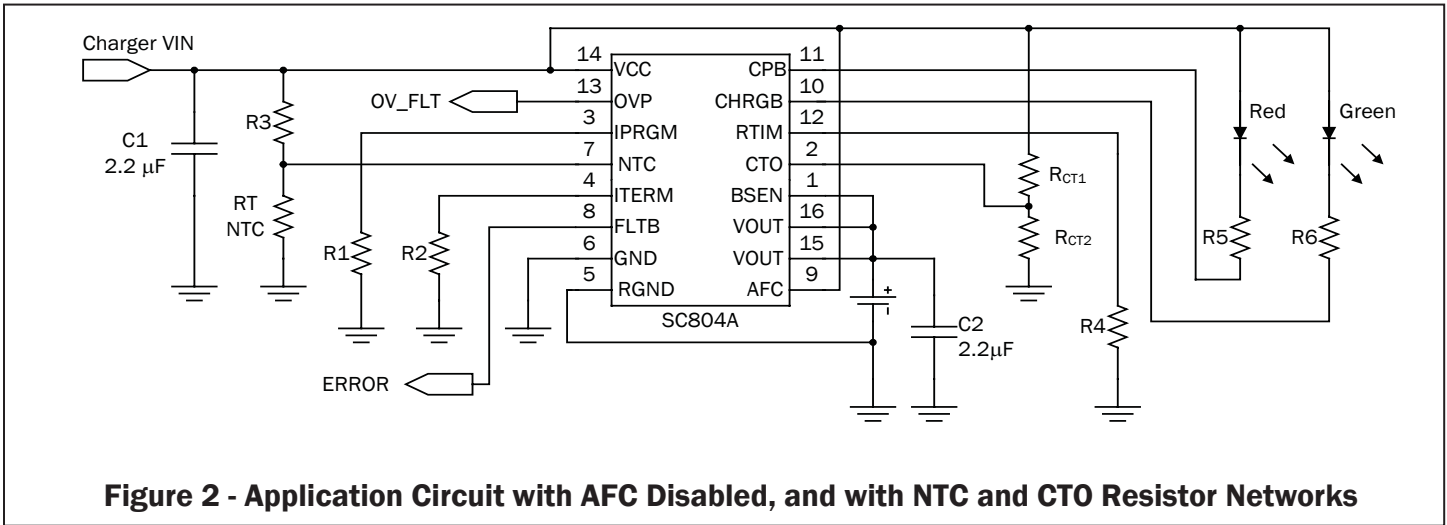

Figure 2 - Application Circuit with AFC Disabled, and with NTC and CTO Resistor Networks
This feature is especially useful if a single PCB design is needed to satisfy similar applications with different requirements. The temperature range for normal charging can be adjusted by adjusting resistor values on a divider network without changing the NTC thermistor, which is often enclosed in the battery pack. An example of a typical application is shown in Figure 2.
The following example assumes the NTC network configuration of Figure 2, with a fixed resistor R3 connected between NTC and VCC, and a battery NTC thermistor RT connected between NTC and ground. The battery temperature range over which charging is permitted is 0°C through 40°C. The datasheet for the selected NTC thermistor indicates that $R_T = 5.839k\Omega$ at 40°C, at $R_T = 26.49k\Omega$ at 0°C, with a dissipation constant $DC = 3mW$. Designate $R_{HOT} = 5.839k\Omega$ and $R_{COLD} = 26.49k\Omega$.
Step 4: *Configure CTO.* If NTC_{COLD} is sufficiently close to the default cold threshold ($V_{NTCC} \times V_{VCC}$), then simply connect CTO to ground, disabling the CTO function, to complete the design. But in this example it is not, so the voltage on CTO must be set to $0.6591 \times V_{VCC}$. The simple resistive voltage divider network of Figure 2 can be used to obtain the desired CTO voltage.